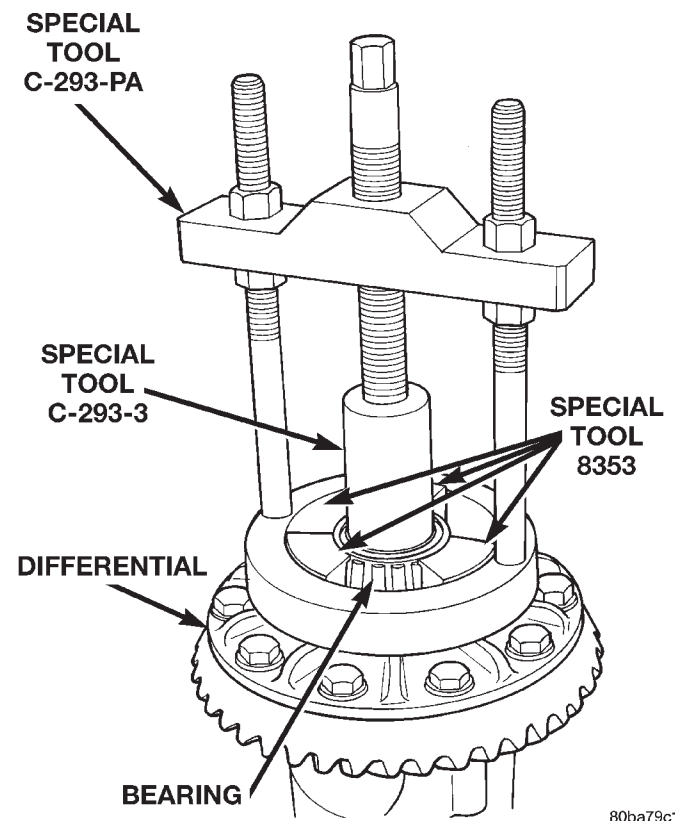

Fig. 38 Differential Bearing Removal
- (1) Remove differential case from axle housing.
- (2) Remove the bearings from the differential case with Puller/Press C-293-PA, Adapters 8353, and Plug C-293-3 (Fig. 38).